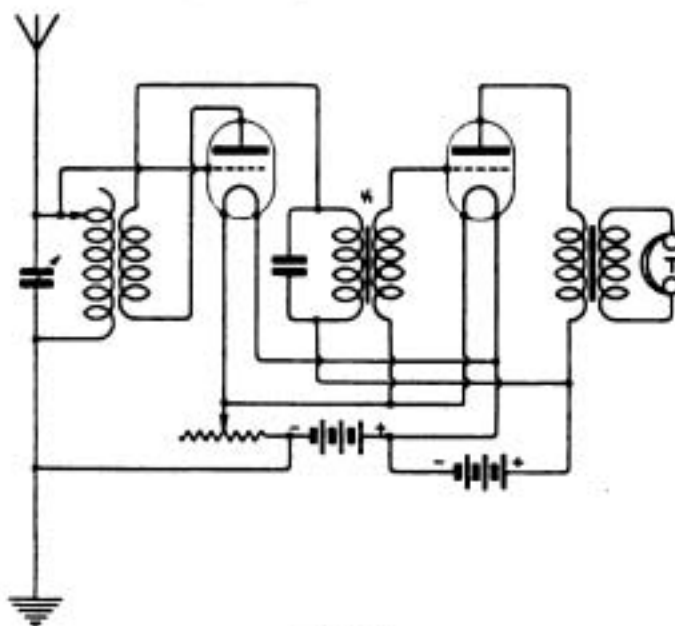

Fig. 3.
P.P.B. (Nottingham). (1) We have never actually made a test, but prefer the longer single wire.
(2) Not one that can be relied on for continuous working.
(3) It is an extremely simple circuit, and will not be very efficient. The wavelength change with the hinged coils will be comparatively small, and therefore must be carefully designed for the wavelength upon which it is desired to receive. Make a tubular inductance several inches in diameter with a sliding control, and you will get better results.
H.B. (Torquay).—(1), (2) and (3) An efficient receiver for 300 to 30,000 ms. cannot be made with one A.T.I. See the reply to **C.A.S. (Reigate)**, who refers to page 168 of the June 11th issue, and make a set similar to this, using the windings given in answer to the above query.
(4) If possible increase the height above the roof and also make the angle between the aerial and the telephone wires greater than 45°. You will, probably, pick up the telephony by direct induction.
A.R.T. (Brixton).—(1) Connect up the apparatus as shown on page 185, Fig. 3, of the June 11th issue, omitting the potentiometer and battery, and connect the primary or high resistance windings of the telephone transformer in place of the telephones. The 2 mfs. condenser is of no use in the circuit.
(2) The maximum wavelength will be about 2,200 ms.
(3) No.
(4) About 15,000 mhys.
A.S. (Colne) asks (1) For a circuit to add a crystal to his valve set. (2) If a grid leak would improve his signals. (3) A question about the theory of action of a grid condenser. (4) What station is YG.
(1) The circuit of Fig. 3, page 61, April 16th issue, will show you how to add the crystal.
(2) It should certainly do so, but may not if the insulation of your condenser is poor.
(3) Your ideas are not correct. Bangay's "Oscillation Valve" has a good explanation of this matter.
(4) Tours.
W.E.R.B. (Guildford) asks (1) If a G.P.O. licence is necessary for receiving only. (2) If so, how obtained and the cost. (3) If telephony can be received with a crystal and ordinary circuits. (4) If instruction has been given in back numbers on the construction of a set suitable for the purpose.
E.H.J. (London) asks (1) Why his set will not oscillate below 2,000 ms, unless the reaction coil is reversed. (2) A circuit to add another valve. (3) Should he use H.F. or L.F. (4) Suggestions.
(1) The explanation is similar to that of the H.F. transformers at present being published in our columns.
(2) and (3) As a wide range of wavelength is desired, it will be simpler to use L.F. For circuit see diagram Fig 3.
N.E.R. (Oswestry) has an L.F. amplifier, and asks (1) What sort of tuner to use with it for C.W., etc. (2) If and how a loose coupler can be used as A.T.I. and reaction coil. (3) Windings for 5,000 ms. (4) Ratio for telephone transformer for use with 120 ohms as shown.
(1) The circuit of Fig. 3, page 432, of the October 1st issue is suitable, but by rebuilding the amplifier you could, with a little ingenuity, arrange to use the same batteries for both tuner and amplifier. You will find many such circuits in these columns.
(2) Yes; see Fig. referred to above.
(3) primary, 10" 6" of No. 24; secondary, 6" 4" of No. 26 0.001 mfd. across the primary.
(4) Primary, 4,000 ohms of No. 44; secondary, 100 ohms, of No. 32 (ratio about 6.1.)